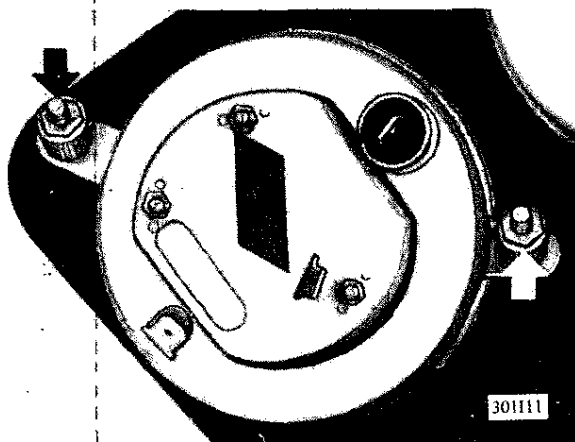

Figure 11-11 Rear View of Electrical Clock
3. Disconnect electrical wires. See Figure 11-11.